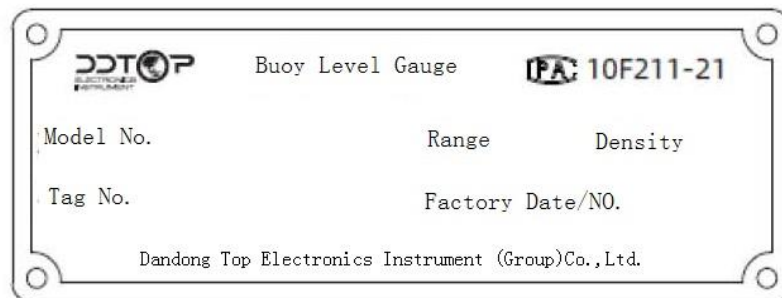

Figure3 Sample Nameplate
5.1.1 Check whether the product nameplate (Figure 3) is consistent with the supply list information.